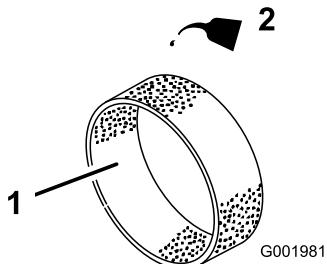

Figure 40
4. Put 30 to 59 ml (1 to 2 fl oz) of oil on the element (Figure 40).